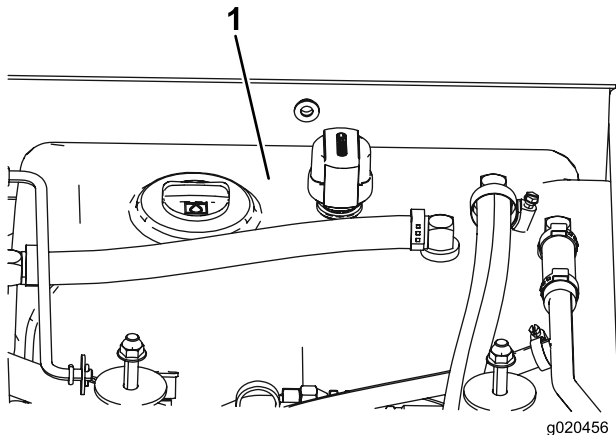

Figure 71
3. Fill the reservoir (Figure 71) with hydraulic fluid; refer to Checking the Hydraulic Fluid (page 26).